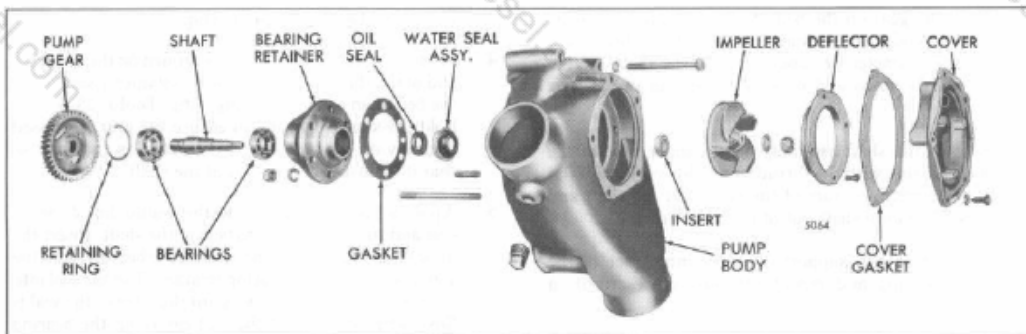

Fig. 15 - Water Pump Details and Relative Location of Parts
1. Remove the pump cover, gasket and deflector ring (Fig. 15).
6. Make sure the mating surfaces of the water seal assembly and the ceramic insert are free of dirt, metal particles and oil film (Fig. 15).